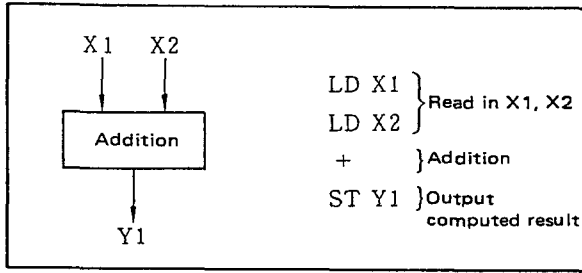
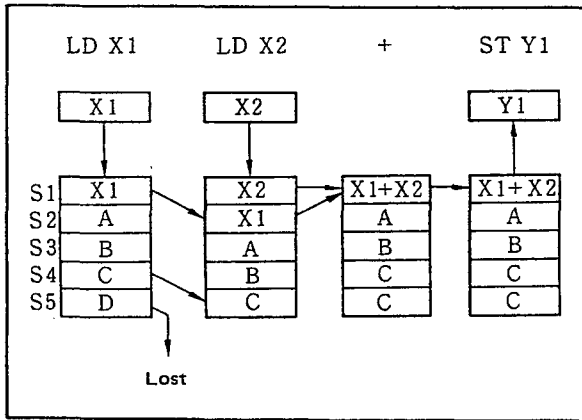

Figure 4-2-1. Two-Input Adder and Program.
Figure 4-2-2. Behavior of Arithmetic Registers Associated with the Sample Program.
The SCMS performs three basic operations. It reads the input signal, computes, and outputs the computed result. The example in Figure 4-2-1 shows how to program the addition of two input signals. Figure 4-2-2 shows how the stack registers S change during the program. All computations are performed in the common stack registers S. Connection of signals to the registers – that is, input to the S registers – is performed by means of the LOAD (LD) instruction. The S registers, S1 thru S5, comprise a "stack," and data in S is pushed down (S1 to S2, S2 to S3, and so on) each time new data is input by the LD instruction.